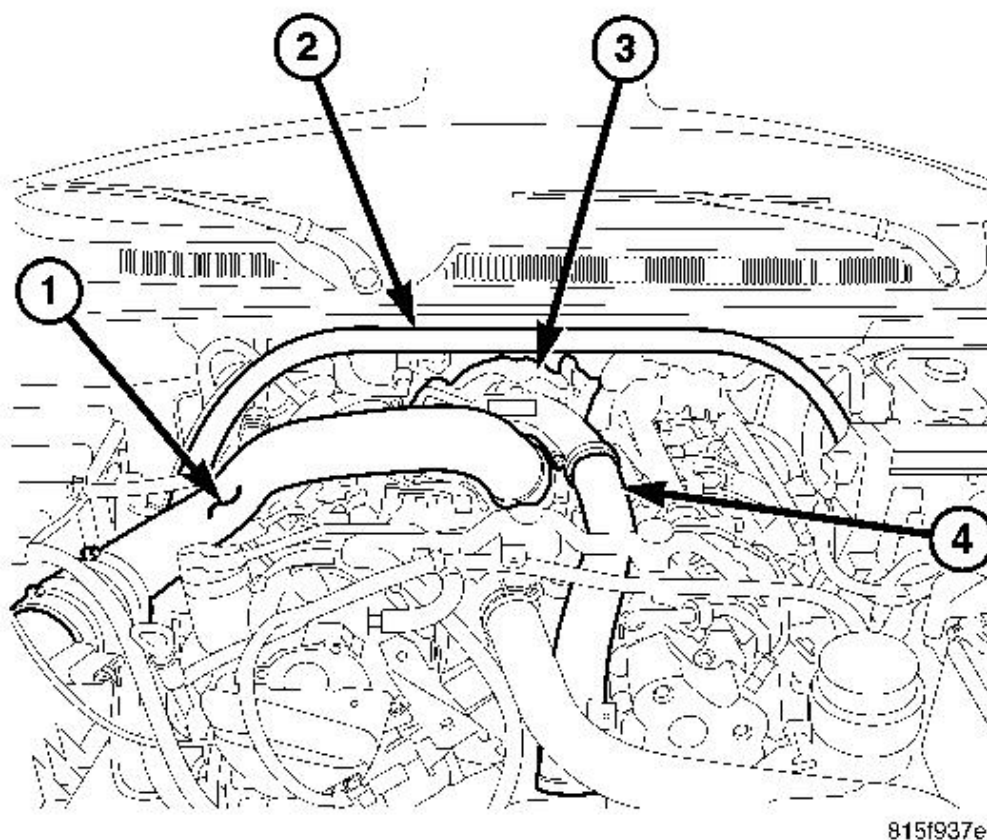

Fig. 164: Strut Tower Support, Air Cleaner Outlet Tube, Turbocharger & Charge Air Inlet Tube
3. Remove the strut tower support (2). See **Fig. 164**.